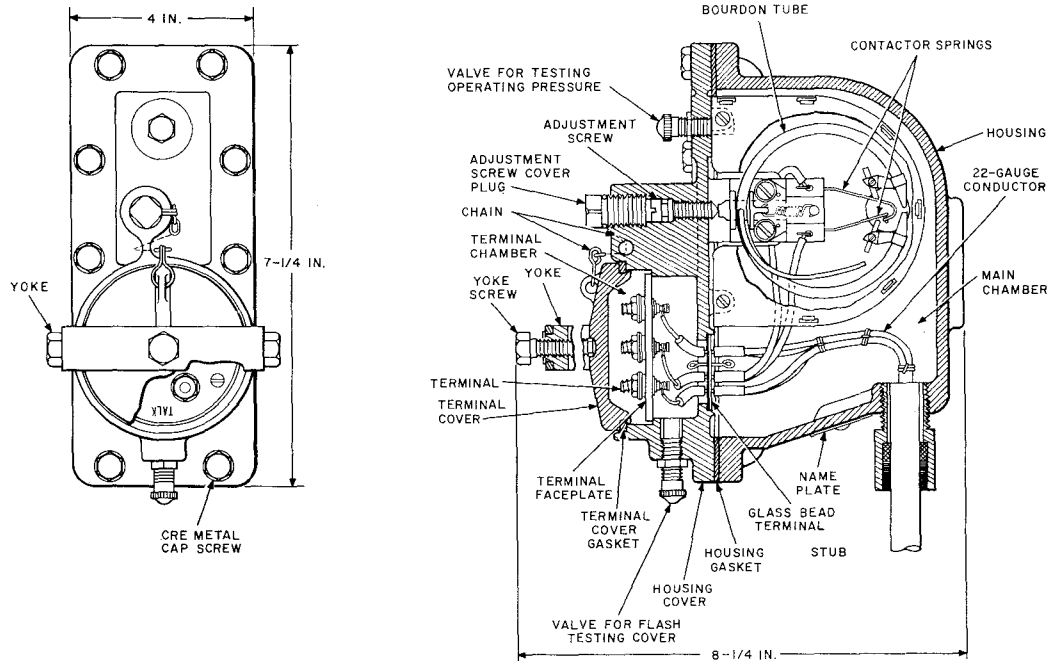
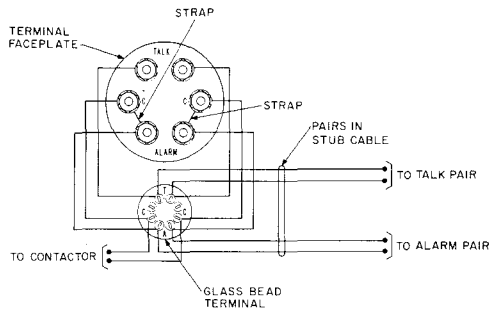

Fig. 7—K or T Contactor-Terminal
Fig. 8—K or T Contactor-Terminal—Wiring Diagram
2.11 This equipment combines in a brass housing, a nontemperature-compensated contactor, and cable terminal facilities for talk and alarm pairs as shown in Fig. 7. The K pressure contactor-terminal has the most favorable operating characteristics for use on cables in continuous flow
entrance of air from the main housing by means of a fused glass-to-metal seal, as illustrated in Fig. 7. The binding posts are appropriately marked. The contactor is connected to the alarm pair by cross-connections in the terminal, as indicated in Fig. 8.
2.18 The wiring diagram for the E-type contactor-terminal is the same as for the K or T contactor-terminal shown in Fig. 8.